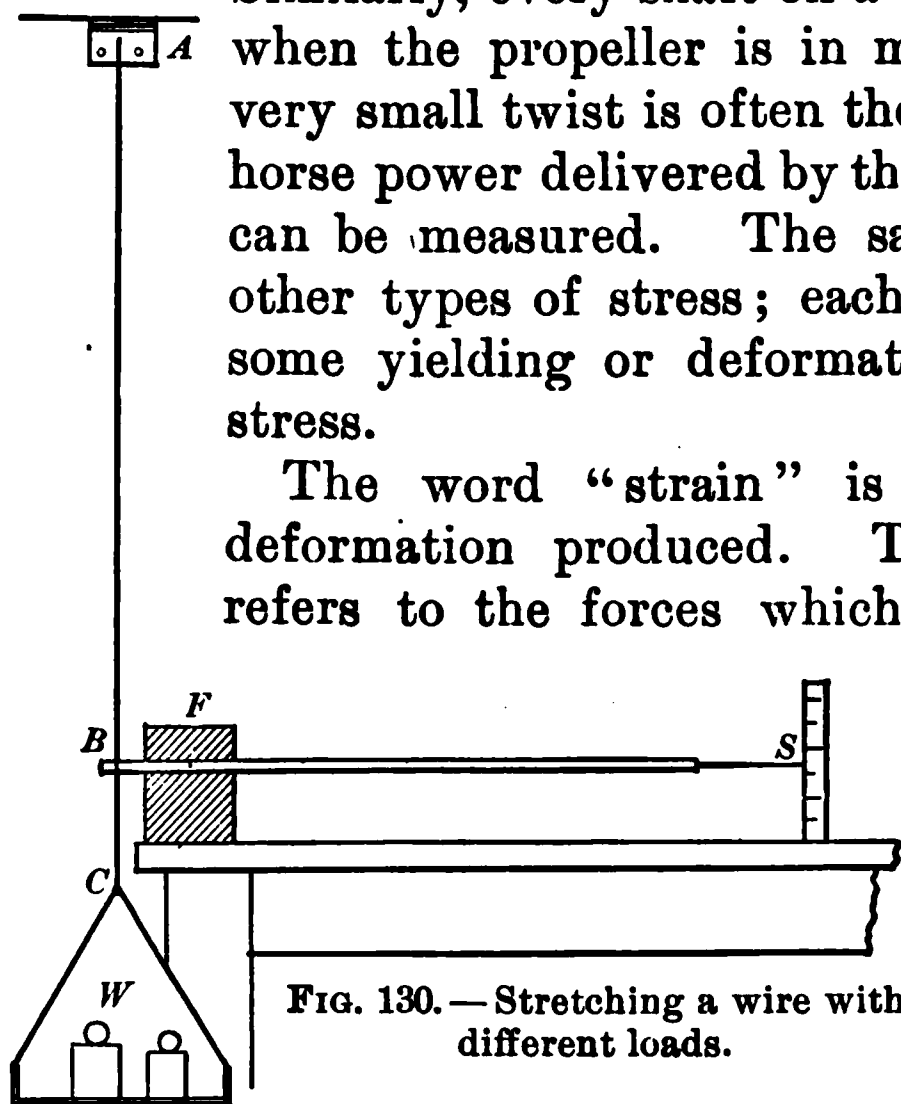

FIG. 130. — Stretching a wire with different loads.
I. *Tension.* Let us fasten one end of a piece of steel or spring-brass wire in a clamp near the ceiling, and attach a pan for weights to the lower end of the wire (Fig. 130). Since the stretch will be small, it is necessary to use a lever or some other device to magnify it. Having placed just enough weight in the pan to straighten the wire, we add weights one at a time and read the corresponding positions of the pointer. Each time we must remove the added weights to see if the pointer comes back to its original position. When it fails to do this, we will stop the experiment and disregard, for the moment, the last reading of the pointer. If we then compute from each deflection of the pointer the actual stretch or elongation of the wire, and divide each stretch by the force causing it, we will find that all the quotients are approximately the same. That is, the stretch is proportional to the load.